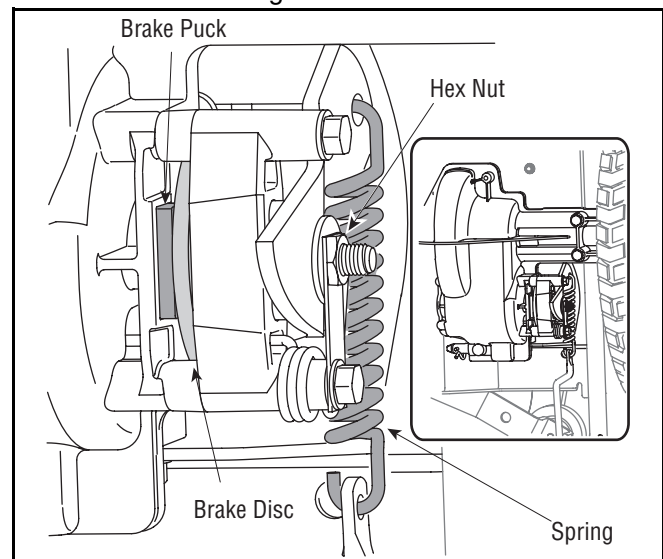

Figure 13
- Looking at the transmission from the right side of the tractor, locate the compression spring and brake disc. See Figure 13.
- Loosen, but do NOT remove, the hex nut found on the right side of the brake assembly. See Figure 13.